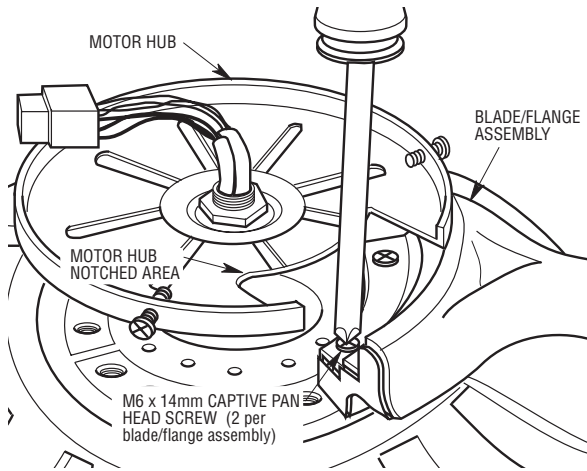

Figure 3
3. Loosely attach one blade/flange assembly to the motor hub by securing the two M6 x 14mm captive pan head screws. Make sure the screws are **NOT** tightened (Figure 3). Repeat this procedure for other four blade assemblies.